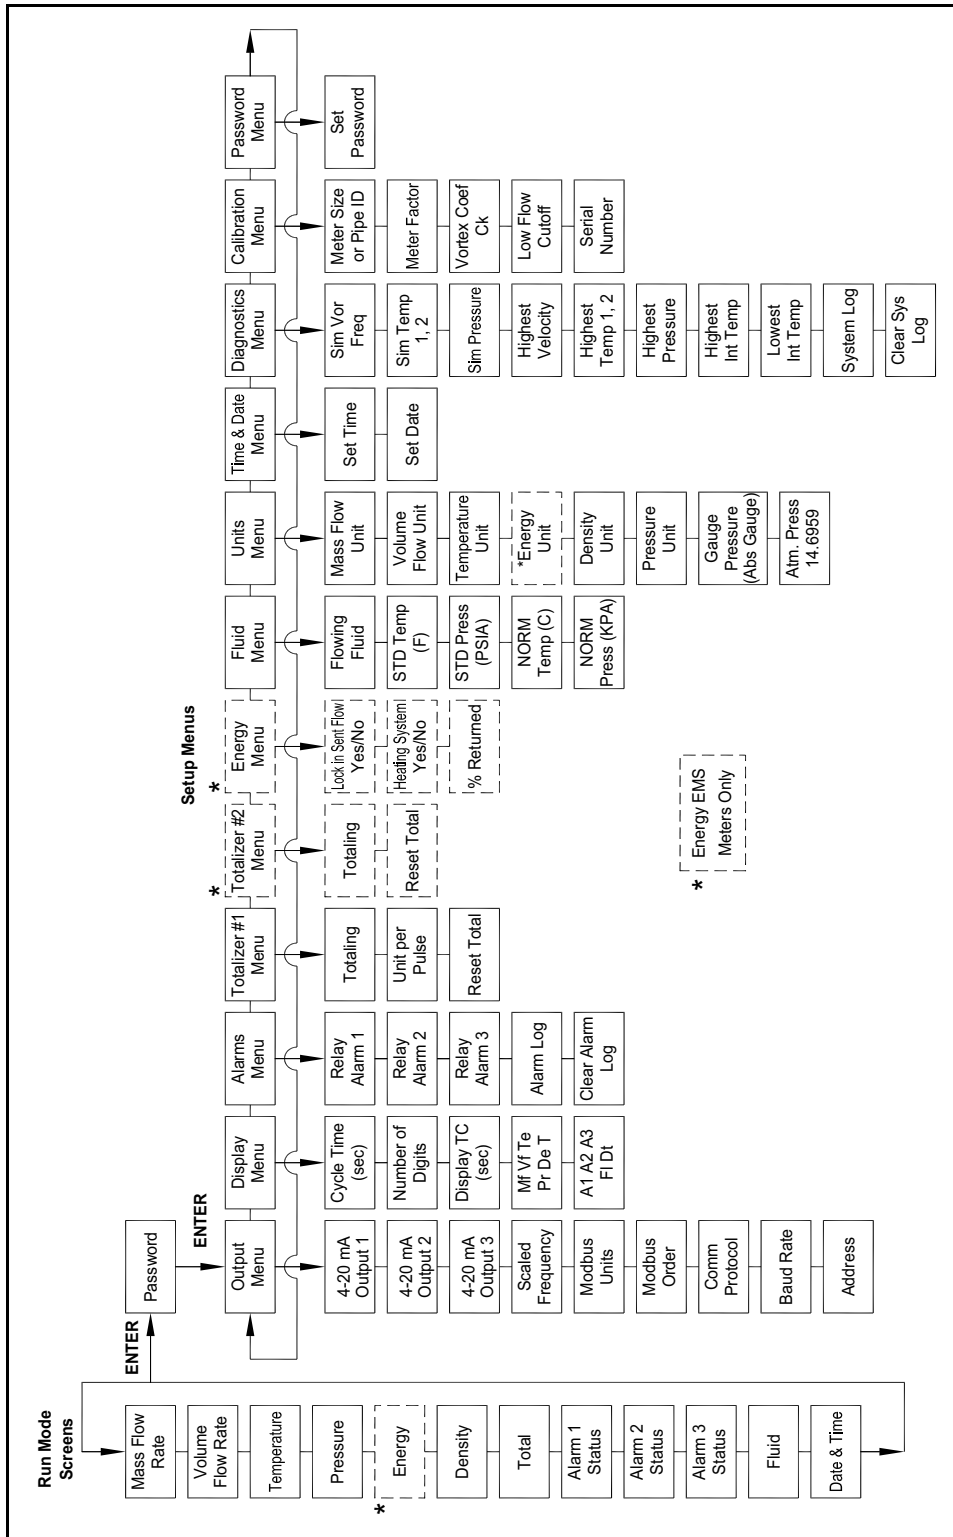

Figure 54: Complete Map of Setup Menus
3. Use the Setup Menus described on the following pages to customize the multi-parameter features of your PanaFlow meter. The entire lower display line is available for entering parameters. Some menus in *Figure 54* below may not be displayed, based on flowmeter configuration settings